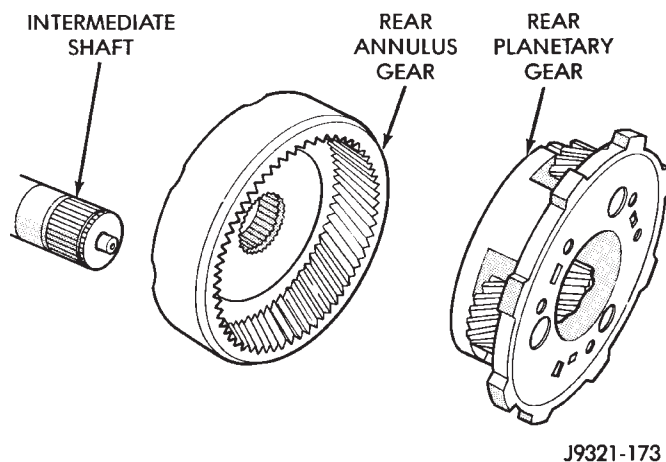

Fig. 75 Rear Planetary And Annulus Gear Removal—46RH
(7) Remove rear planetary gear and rear annulus gear from intermediate shaft (Fig. 75).